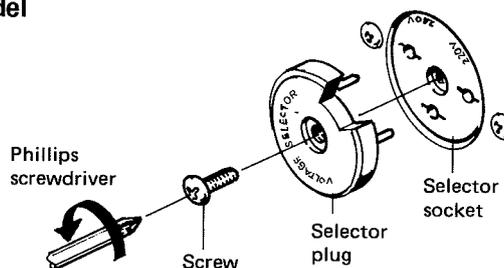

Fig. 2
2. Use the Phillips screwdriver to loosen the mounting screw, then remove the SELECTOR plug (See Fig. 2).